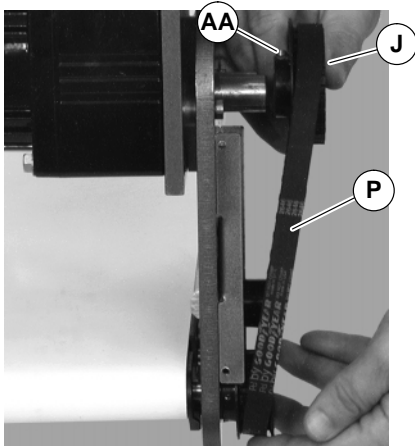

Figure 13
NOTE: If drive pulley (J of Figure 13) is replaced, wrap timing belt around drive pulley and complete step 3.
6. Loosen drive pulley set screws (AA of Figure 13). Remove drive pulley (J) and timing belt (P).
NOTE: Drive pulley (J of Figure 13) is removed. Wrap timing belt around drive pulley and complete step 10.